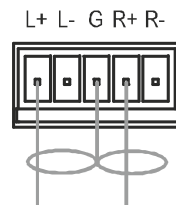

Figure 5: Unbalanced Stereo Audio Output Connection
- An unbalanced stereo audio output connection, see Figure 5